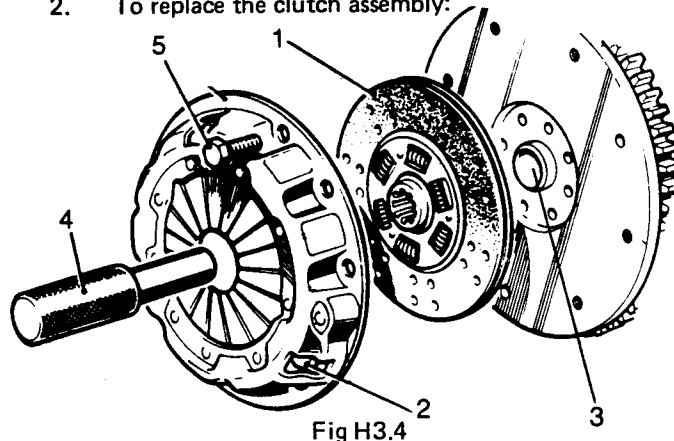

Fig H3.4
- (1) Refer to Fig H3.4. Position the clutch driven plate (1) with the side marked 'flywheel side' towards the flywheel.
- (2) Ensure that the marks on the cover and flywheel are aligned and offer up the cover/driven plate to the flywheel.
- (3) Line up the hole in the cover with the splined hole in the driven plate (2) and the bearing in the crankshaft (3) using special tool 18G79SA (4).
- (4) Secure the cover to the flywheel with the bolts (5) and, using diagonal selection, tighten the bolts evenly to 30 to 35 N.m.
- (5) Remove special tool 18G79SA.